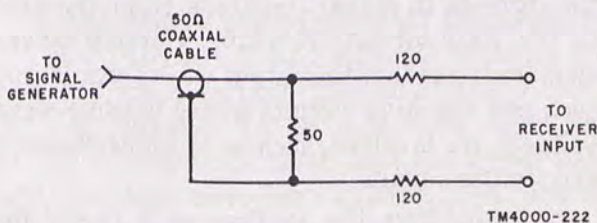

Figure 25. Impedance-matching network.
c. An impedance-matching network can be used to match the signal generator to the receiver input. An example is shown in figure 25. The coaxial cable *sees* the 50 ohms in the 50-ohm resistor, and the receiver input *sees* the total resistance of the three resistors in series. The total resistance is 290 ohms, which is a very close match for 300 ohms.